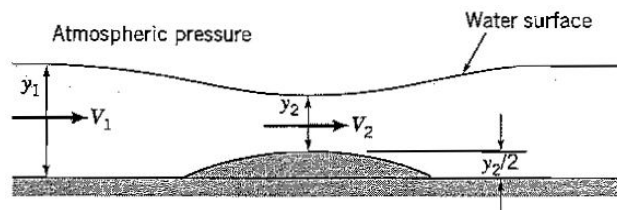

Figure P10.11
10.11 Water flows smoothly over a small bump in a channel of constant width, as shown in Figure P10.11. At any cross-section the velocity may be considered constant over the entire area. If V_1 is the velocity at entry, where the depth is Y_1 , and V_2 is the velocity where the bump has its highest point, where the depth is Y_2 . If $Y_1/Y_2 = 1.8$, find